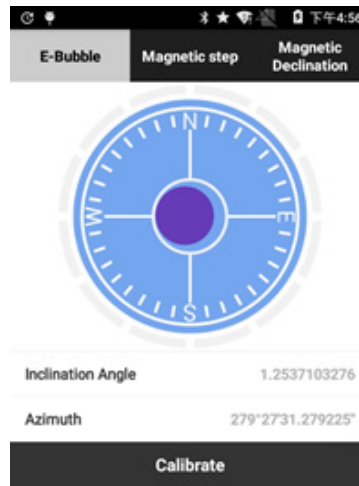

Figure 4.9-2
(2) Center the bubble on the retractable pole and press [Calibrate]. E-bubble and bubble on the retractable pole are in center at the same time and E-Bubble is shown in green as shown in Figure 4.9-2.